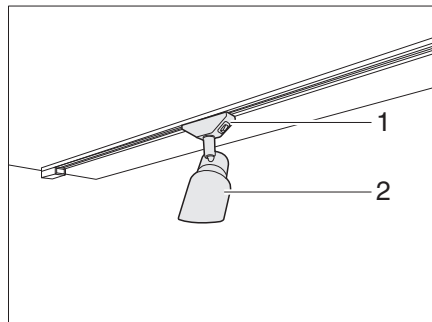

Fig. 45 Halogen spotlight
- Grasp the holder (Fig. 45,1) and turn it by 45°.
- Remove the halogen spotlight (Fig. 45,2) from the rail system.
- Insert the halogen spotlight (Fig. 45,2) at the desired position into the rail system and turn by 45°.
- Turn by 45° at the holder Fig. 45,1).